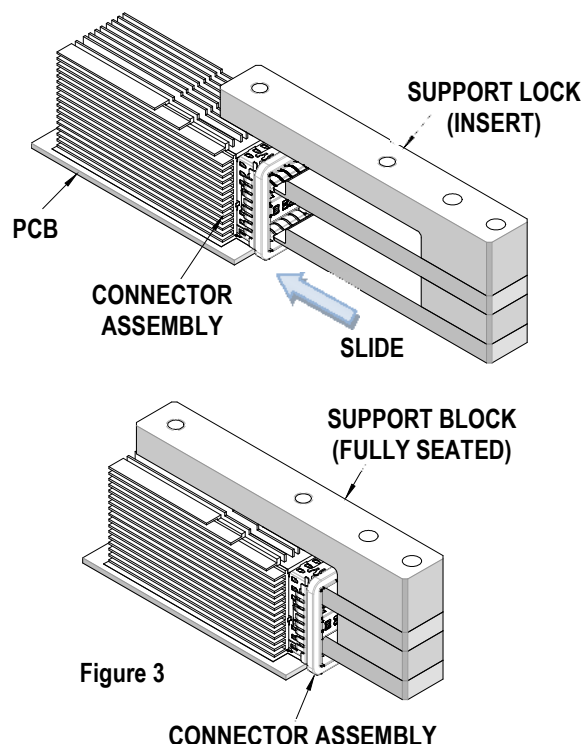

Figure 3
3. Insert the support tooling into the cage ports until it is fully seated. See Figure 3.